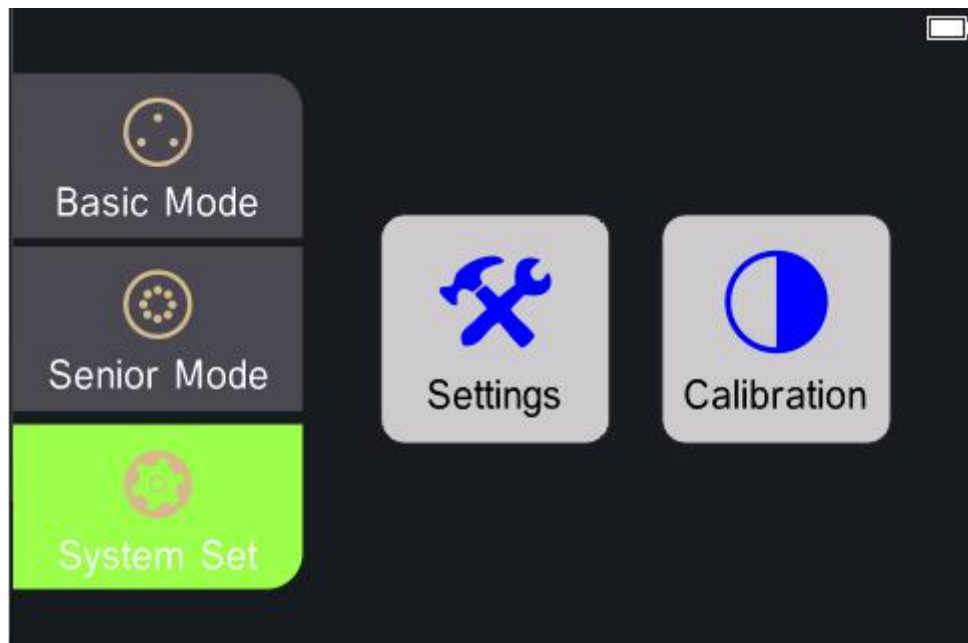
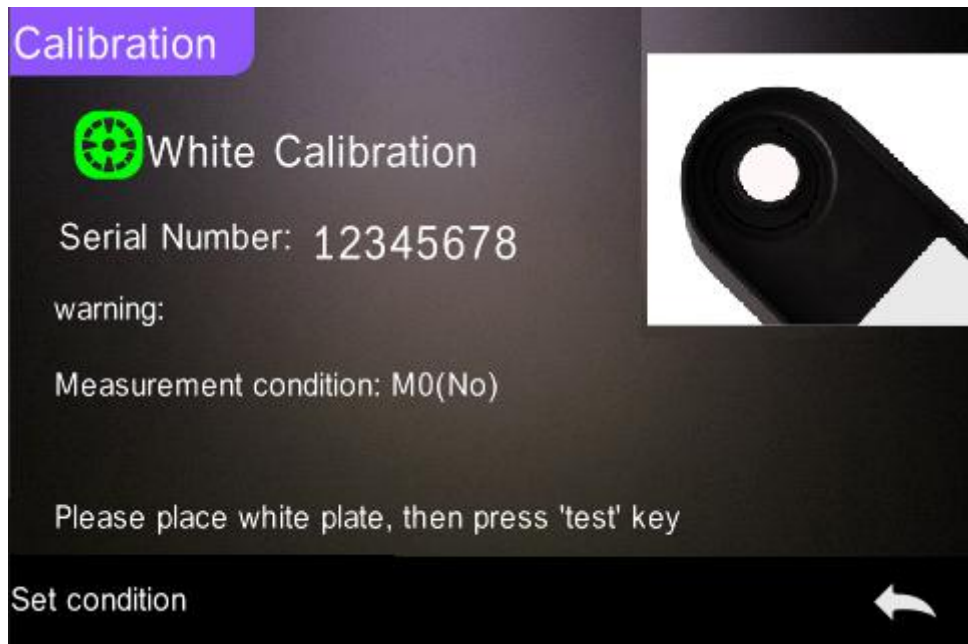

Figure 20 System Setting
Figure 21 Calibration
1. Click the System Setting-> Calibration as shown in Figure 20. Select "Calibration" to enter white and black calibration interface as shown in Figure 21.